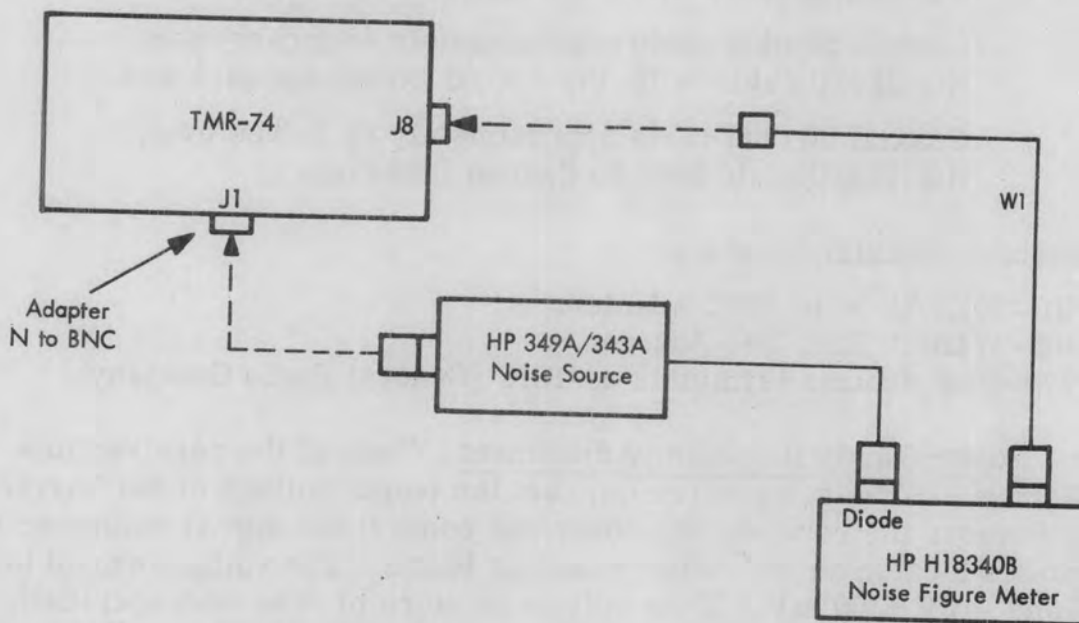

Figure 5-3. Equipment Setup for Noise Figure Test
- a. Setup. Interconnect the receiver and the test equipment as shown in figure 5-3. Set controls as follows: